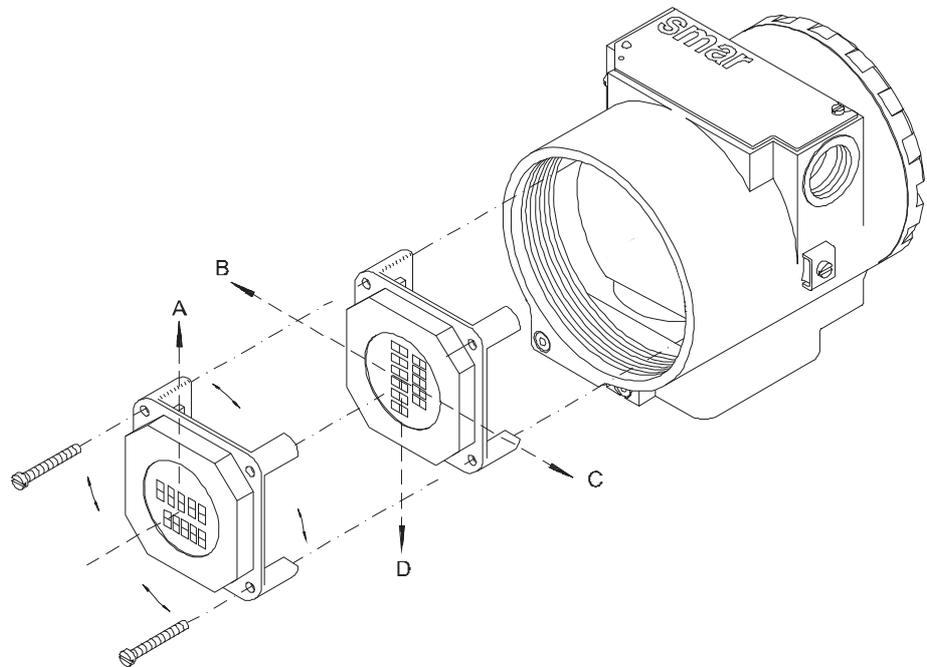

Figure 6.2 – Four Possible Indicator Positions
- Insert the output signal board (7) into the housing (9) and hold it with its screws.
- Insert the main board (5) in the housing, making sure that all the interconnected pins are connected.
- The display may be mounted in any of the 4 possible positions (see Figure 6.2). The “▲” sign indicates the display upper position.
- Hold firmly the main board and the display with their screws (3).
- Fit the cover (1) according to its area description and lock it with the locking screw (8).